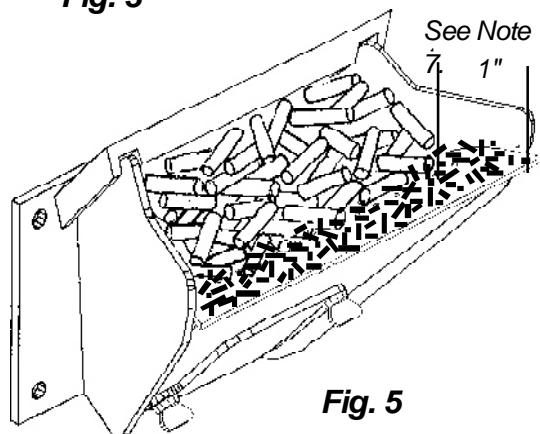

Fig. 5
7. Setting the feed adjuster # for maximum burn: With the unit burning in "AUTO", turn to "Stove Mode" and put the fan on "H". Set the Temperature Dial to #7. Allow the unit to burn for about 30 minutes and check ash on front of burn pot. Fig. 5. If the ash line is larger than 1", turn the feed adjuster from #4 to #5. Allow another 30 minutes of burn time and check again. If, at #6 setting, a 1" or less ash bed is not obtainable, it is not a problem. The 1" ash bed is only a maximum burn rate and at most normal settings the ash bed will be larger.